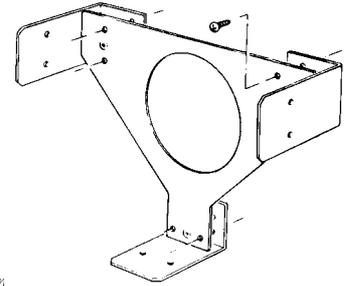

Fig. 5. Semi recess kit frame assem
b) three legs to the 'Y' shaped plate using the self tapping screws provided. (See Fig.5).